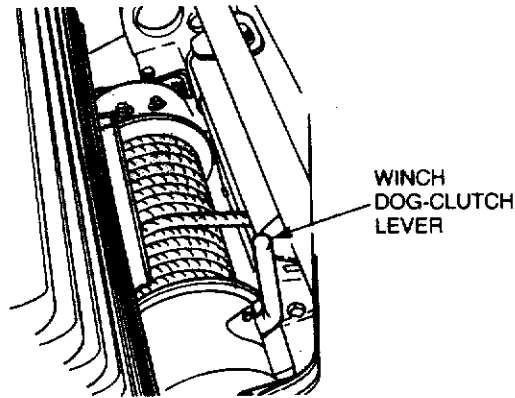

Figure 2-5 Winch dog-clutch operation
- a. Ensure that the engine is switched OFF, then set the winch dog-clutch lever to the vertical position (see Fig. 2-5) to